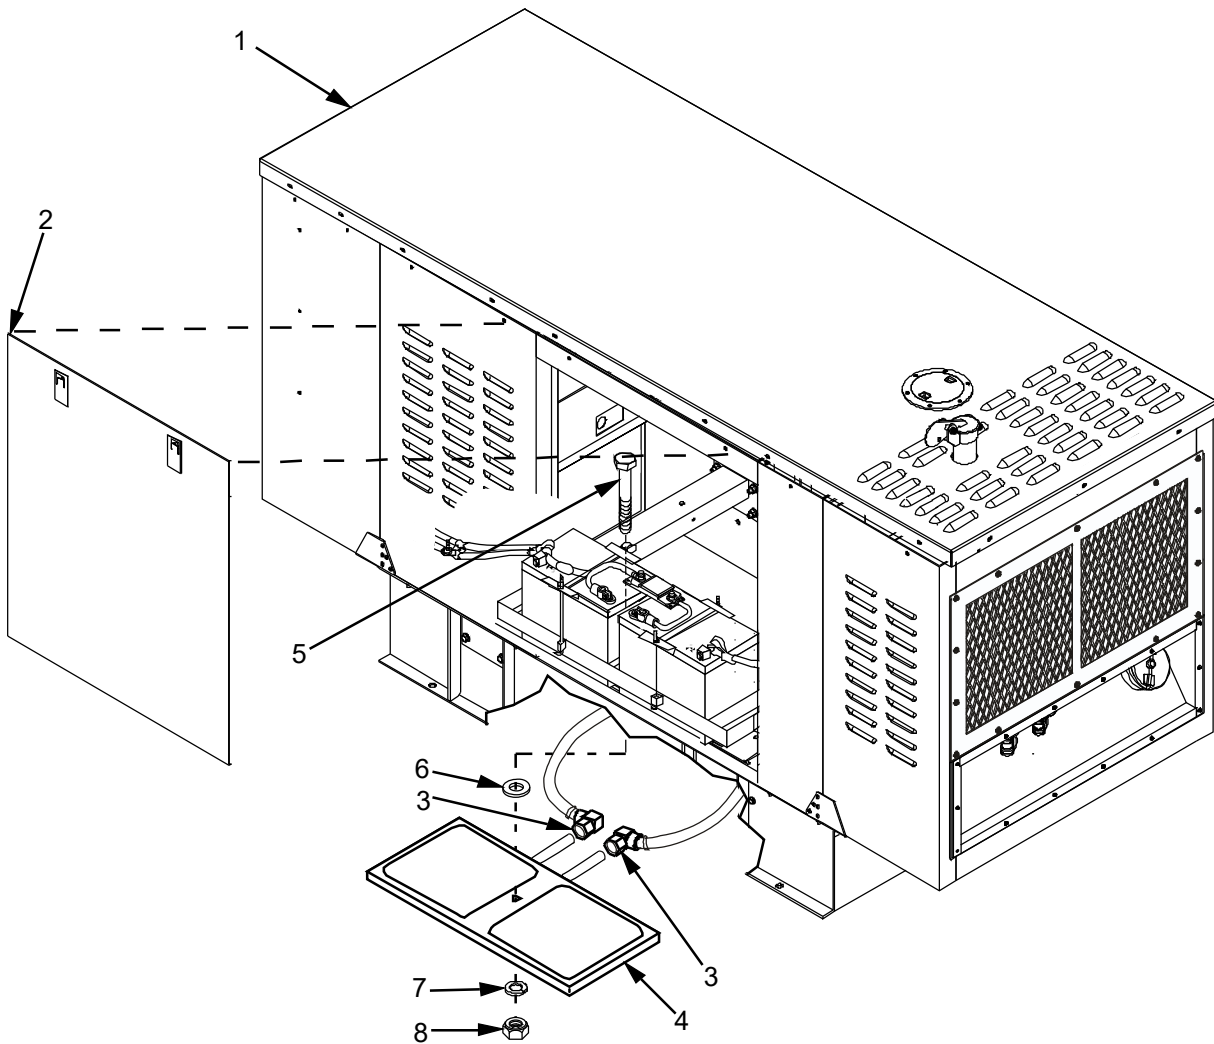

Figure 3. Battery Warmer - Replace.
1. Verify that Genset (Figure 3, Item 1) has been shut down, engine is cool, and that BATTERY SWITCH is set to OFF (WP 0005, Genset Shutdown Procedure).
2. Remove cargo restraints (not shown) to gain access to rear access panel (Figure 3, Item 2) of Genst.
3. Remove rear access panel (Figure 3, Item 2) of Genset (Figure 3, Item 1) and set aside.
When performing the following step, use two wrenches. One to loosen hose (Figure 3, Item 3) and one to keep associated hardware on battery warmer (Figure 3, Item 4) stationary.
5. Disconnect two hoses (Figure 3, Item 3) (located on underside of Genset) from battery warmer (Figure 3, Item 4) and place into drain bucket.
6. Remove and retain bolt (Figure 3, Item 5), two flat washers (Figure 3, Items 6 and 7) and lock nut (Figure 3, Item 8) that secure battery warmer (Figure 3, Item 4) to Genset (Figure 3, Item 1). Discard lock nut (Figure 3, Item 8).
7. Remove battery warmer (Figure 3, Item 4).
1. Wrap threads on battery warmer (Figure 3, Item 4) with Tape, Antisiezing.
2. Install battery warmer (Figure 3, Item 4) to underside of Genset (Figure 3, Item 1) and secure with bolt (Figure 3, Item 5), flat washers (Figure 3, Items 6 and 7), and new lock nut (Figure 3, Item 8). Tighten hardware finger tight at this time.
When performing the following step, use two wrenches, one to tighten hose (Figure 3, Item 3) and one to keep associated hardware on battery warmer (Figure 3, Item 4) stationary.
3. Connect two hoses (Figure 3, Item 3) (located on underside of Genset) to battery warmer (Figure 3, Item 4).
4. Finish tightening bolt (Figure 3, Item 5), flat washers (Figure 3, Items 6 and 7), and lock nut (Figure 3, Item 8).
6. Install and secure rear access panel (Figure 3, Item 2).
8. Start Genset (Figure 3, Item 1) in accordance with WP 0005, Genset Start Procedure.